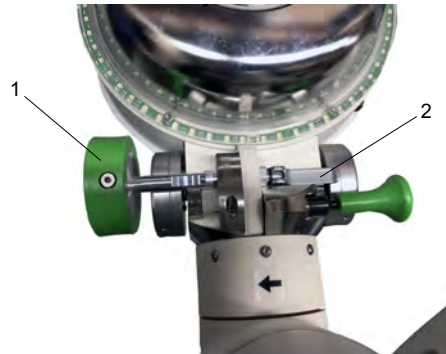

Fig. 11-17 Fine adjuster on the therapy head (optional)
Using the dial on the optional fine adjuster (**Fig. 11-17 /1**) you can position the therapy head easily and precisely.
- If alignment of the crosshairs is successful, lock the position of the therapy head using the tension lever on the side (**Fig. 11-17 /2**).